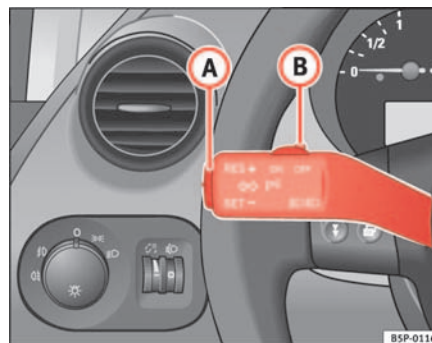

Fig. 141 Turn signal and main beam lever: Switch and rocker switch for CCS
- Push the switch  fig. 141 **B** to the left to **ON**.